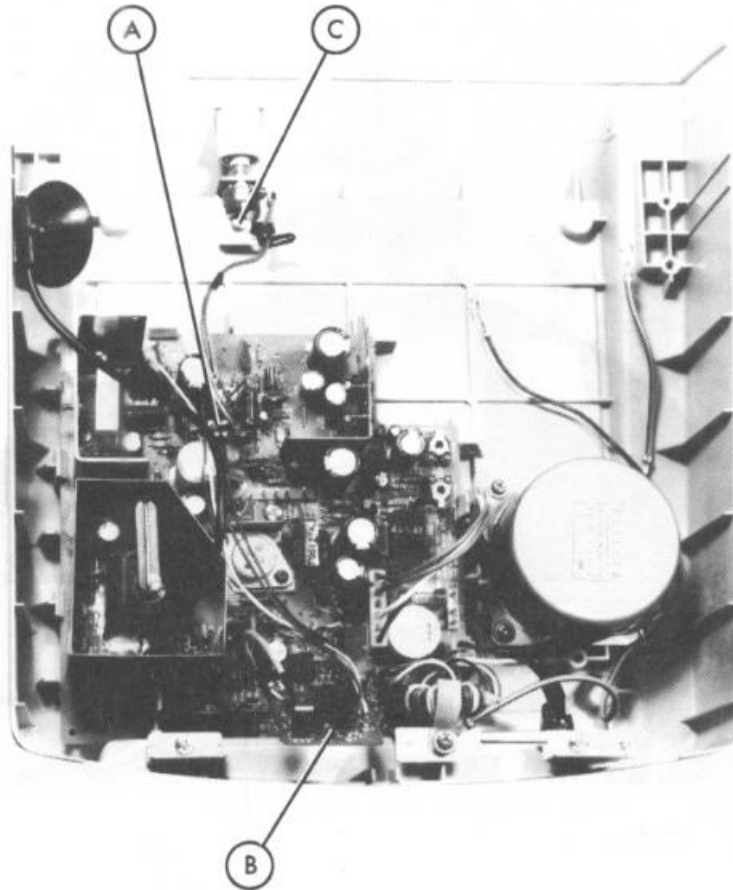

FIGURE 4-21. BRIGHTNESS CONTROL REMOVAL/REPLACEMENT
1. Press back on tabs (G) while installing circuit board (B). Secure the board with two screws (F).
2. Install transformer connector (A), AC input (C), video cable (D), and brightness control (E).
4.5.9 Brightness Control Removal (Figure 4-21)
4.5.10 Brightness Control Replacement (Figure 4-21)